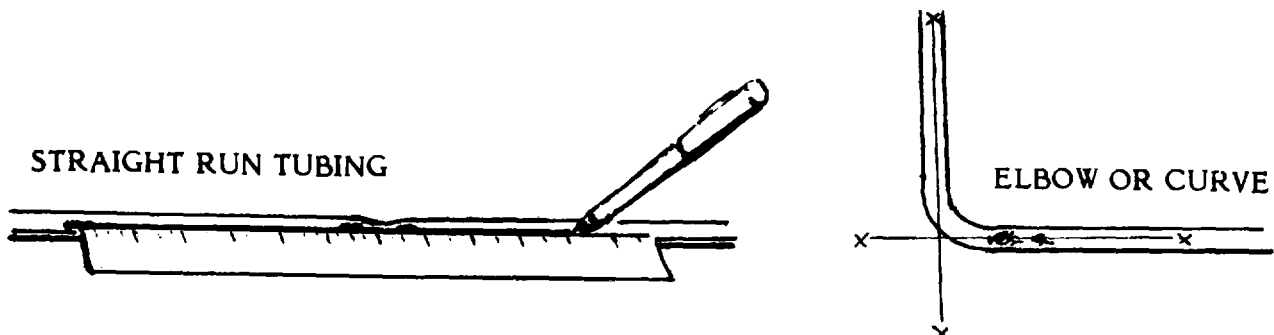

Figure 4. Long Axis Marking.
1. Long Axis marking. Using a marking pen and a ruler, draw a straight line on the tubing, starting in the undamaged area, through to the damaged section, into the other undamaged area, as shown in Figure 4.